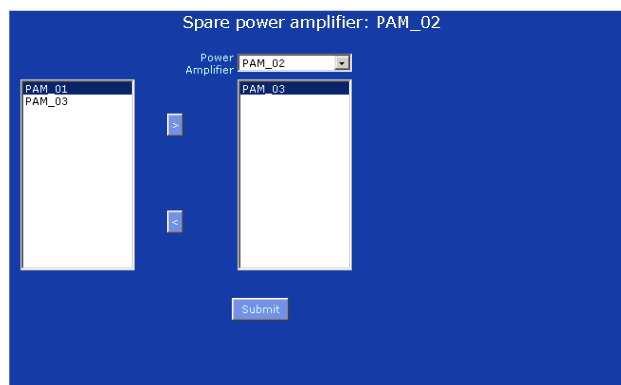

figure 36.16: Sparing, step 1
- 1 Go to *Configure > Zone & amplifier > Sparing*. A screen similar to the one in figure 36.16 appears in the main frame of the web interface.